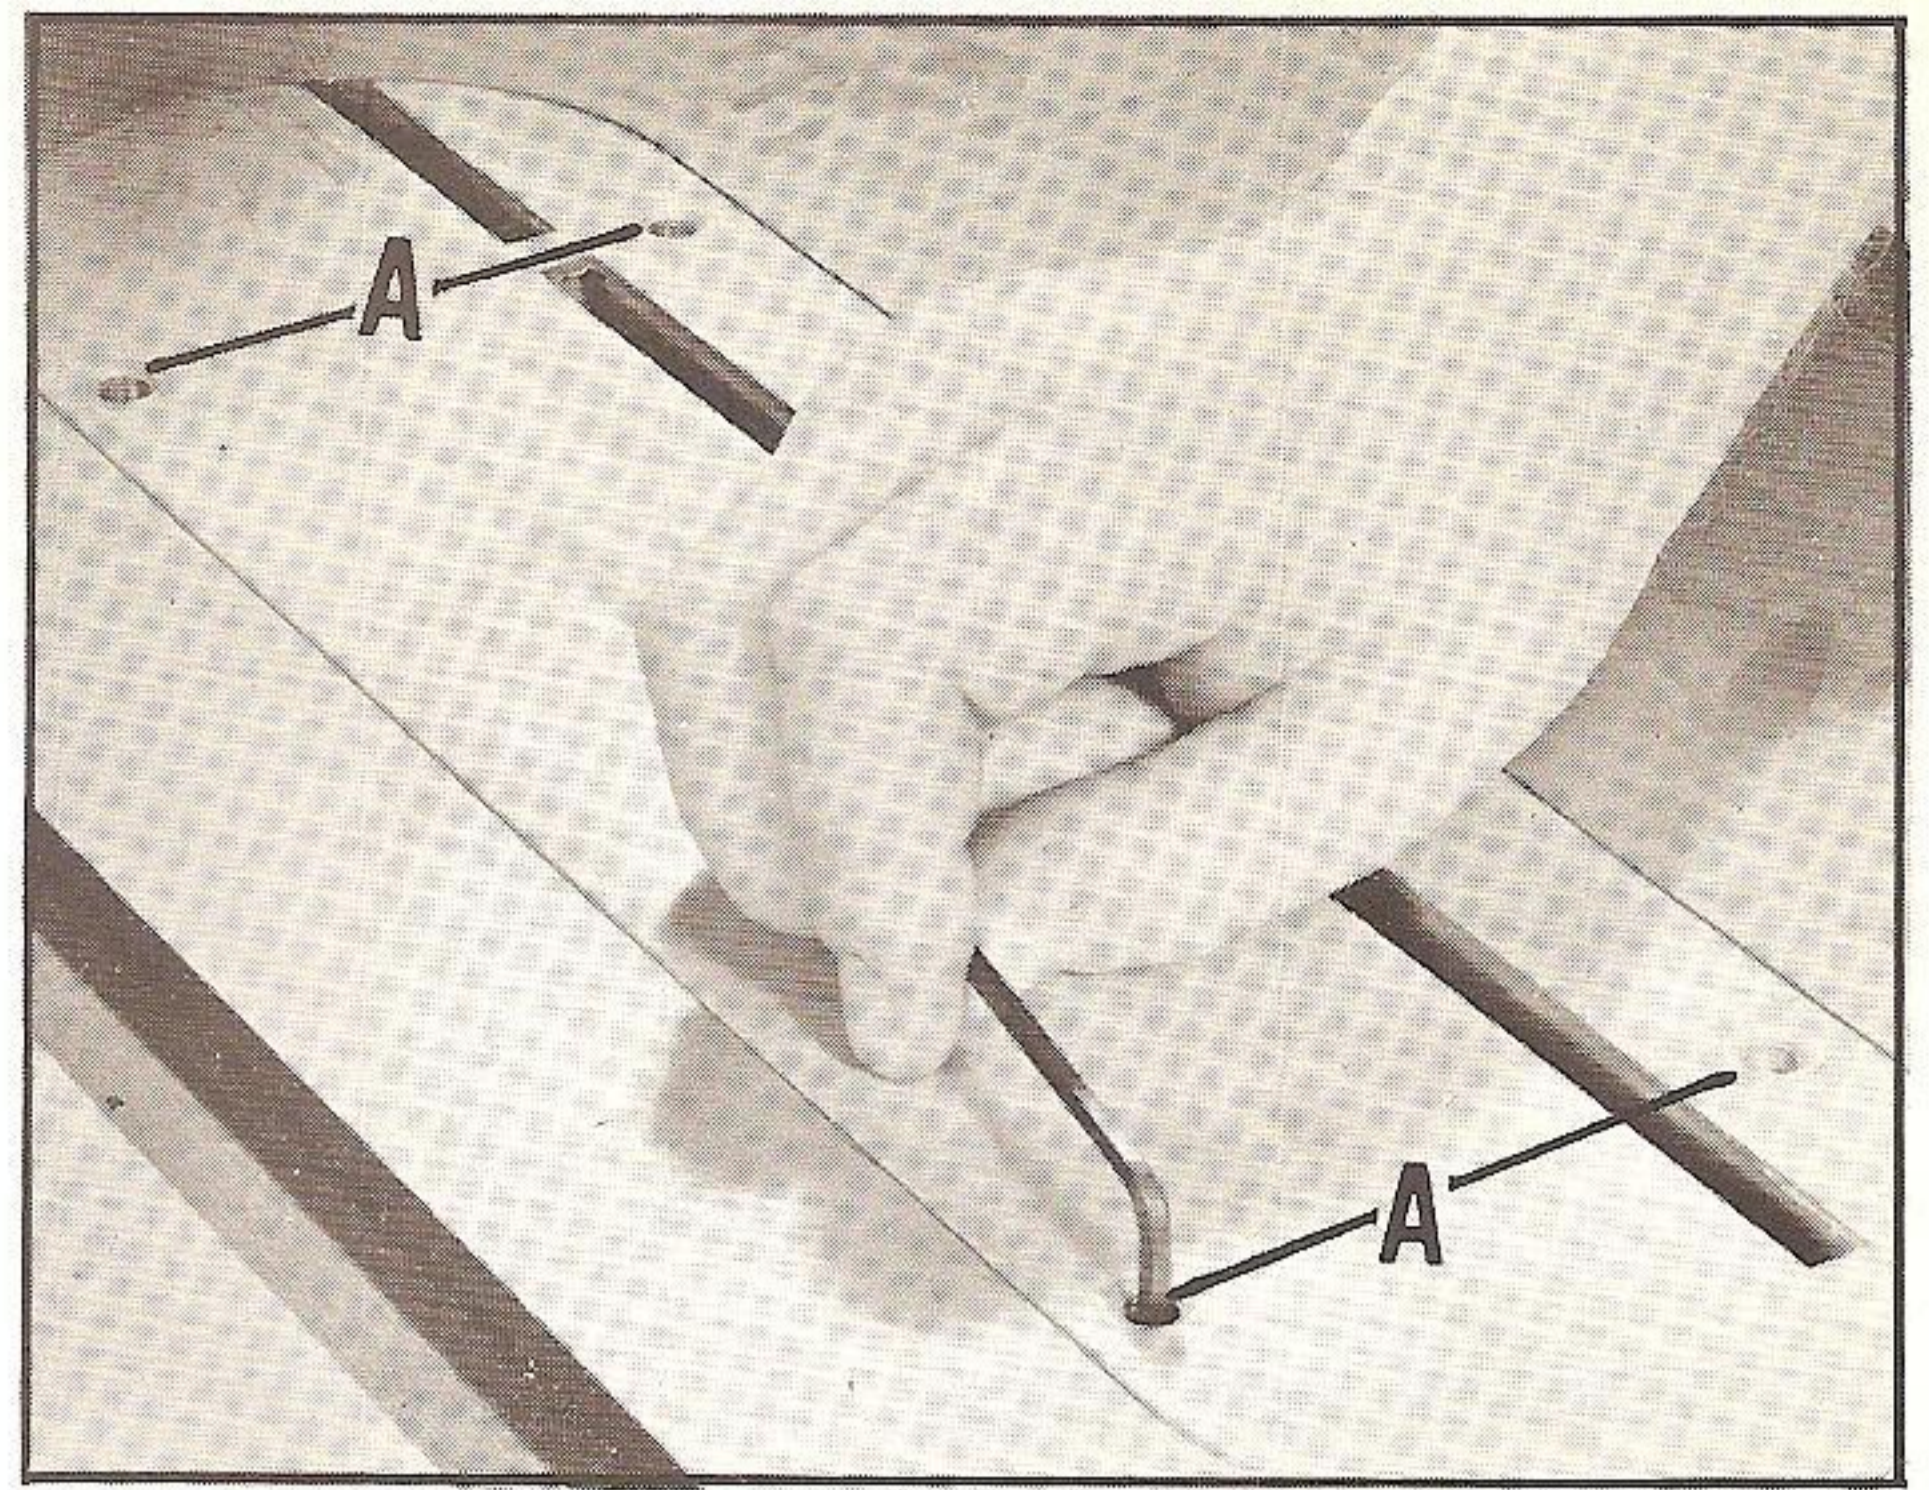

Fig. 25
The table insert should always be flush with the table top. To adjust the table insert, turn the adjusting screws (A) Fig. 25, in or out.